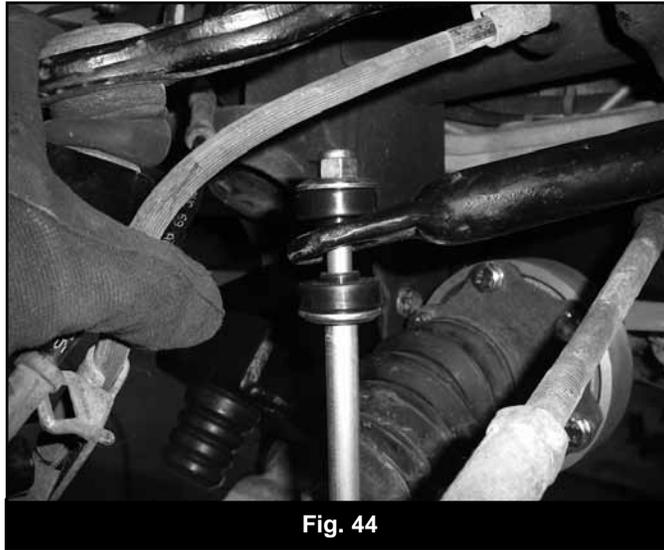

Fig. 44
76. Install a provided stem washer (S100776) followed by a stem bushing (SB26BK) on each sway bar link. Install both links into the sway bar and install a second stem bushing followed by a second washer. Fasten the sway bar link upper assemblies with 3/8" nylock nuts (BP 569). Leave nuts loose (Fig 44).